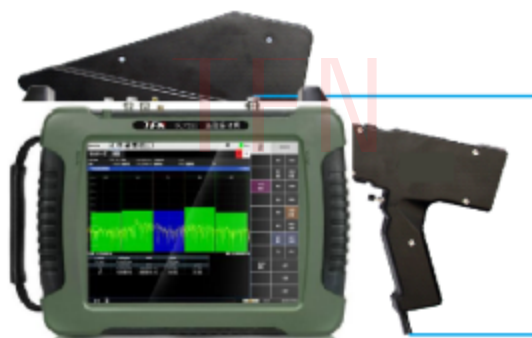

Figure 8.11 Connection diagram of handheld DF antenna and RMT series spectrometer
- Step 1. Connect the handheld DF antenna to RMT spectrum meter RF input port and USB port, as shown in Figure 8.11: